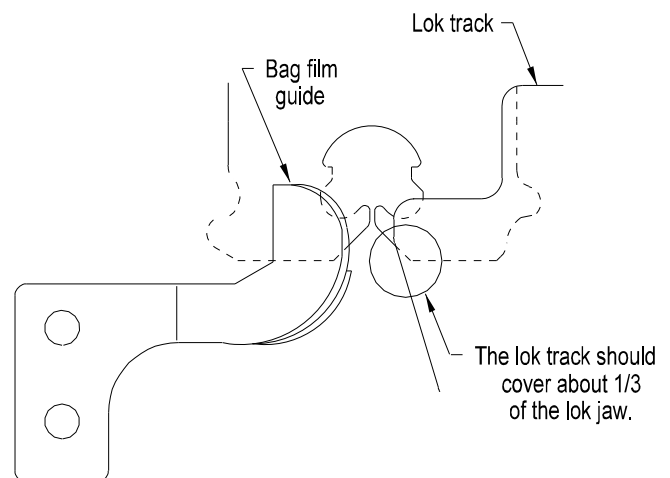

Figure 5.5
5. Loosen the pick con rod locking nuts and rotate con rod in the desired direction. Rotating the con rod changes position of the lok pick, and so repositions the closure strip in the lok track. Continue to adjust until the last closure in the strip is in the closing position shown. (Figure 5.5) Note the lok track covers about one third the slope of the closure jaw. (circled)